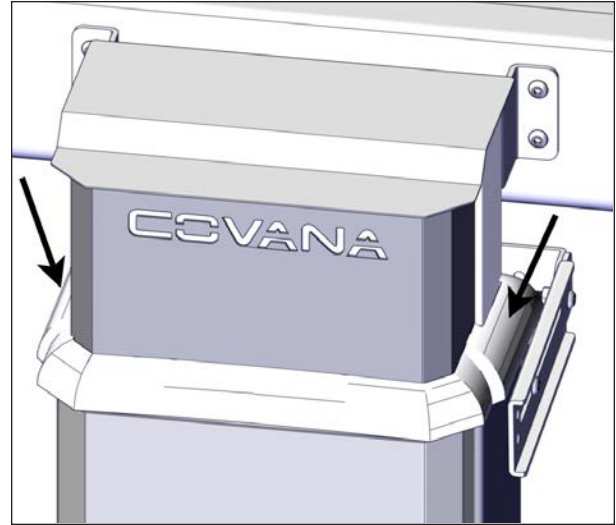

FIGURE 90: SEAL INSTALLATION
24. For all posts, slide the all-weather seals down. Ensure they are properly seated on the outer sleeve base. Push down on the seal as shown in Figure 90.